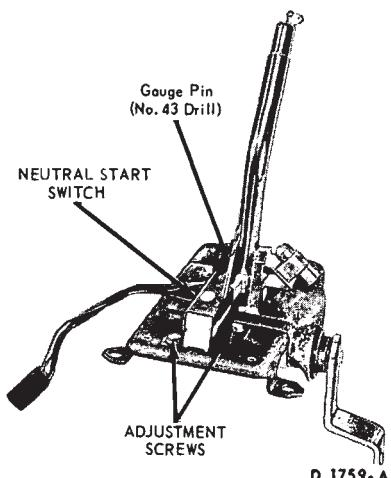

FIG. 10—Neutral Start Switch—Console Shift—Fairlane-Montego
6. Loosen the two combination starter neutral and back-up light switch attaching screws (Fig. 10).
7. Move the selector lever back and forth until the gauge pin (No. 43 drill) can be fully inserted into the gauge pin holes (Fig. 10).
7. With the selector lever in neutral, move the selector lever back and forth until the gauge pin (No. 43 drill) can be fully inserted into the gauge pin holes (Fig. 10).